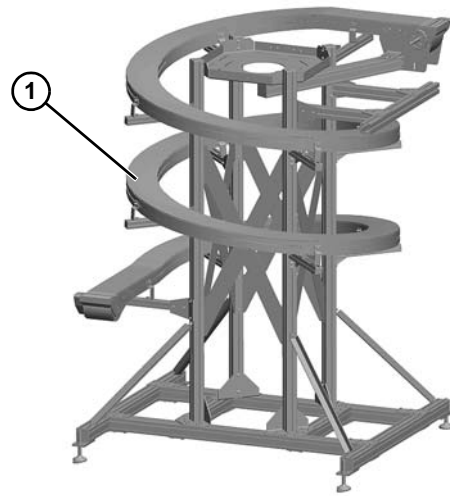

Figure 3
2. Using a suitable lifting device, raise the conveyor (**Figure 3, item 1**) from the shipping crate/pallet and place upright.